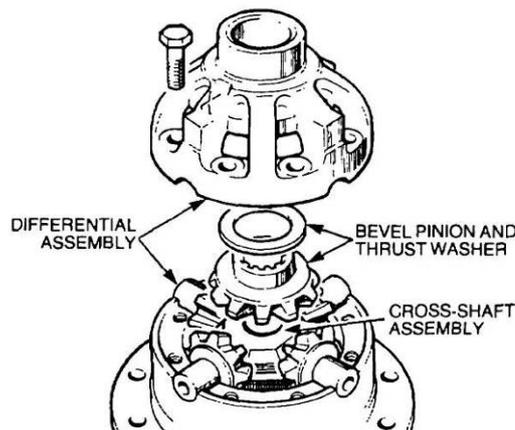

Figure 232 Disassembly of the Differential
- b. Match mark the two differential halves (if not already marked), remove the bolts securing the two halves together (Figure 232) and remove the upper half.